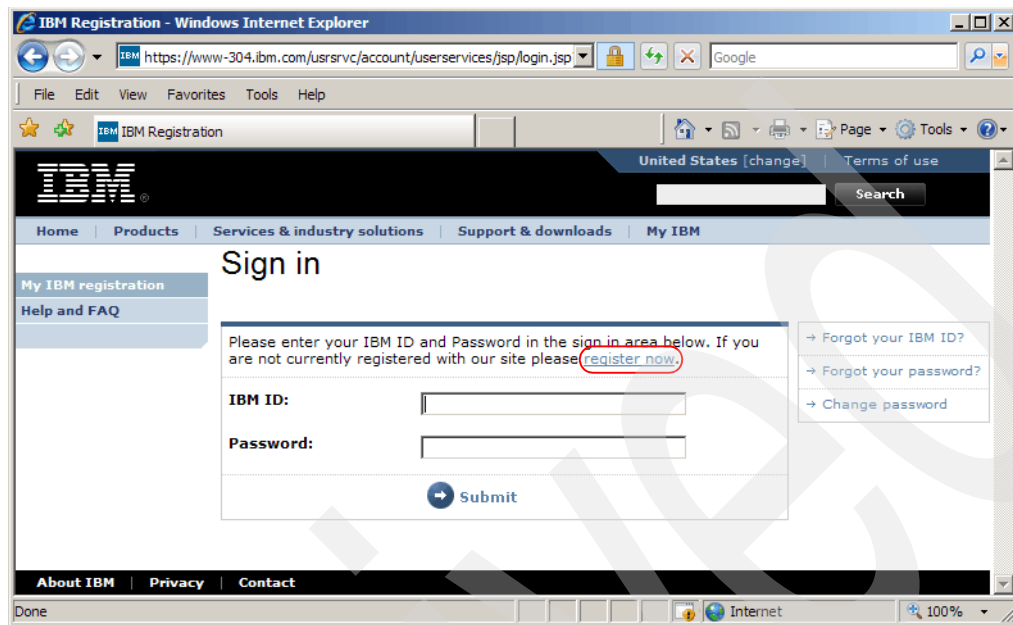

Figure B-8 IBM MySupport - Sign In window
2. The Sign In window appears, as shown in Figure B-8. Enter your IBM ID and password in the sign in area to sign in and proceed. If you are not currently registered with the Web site, click **Register Now**.